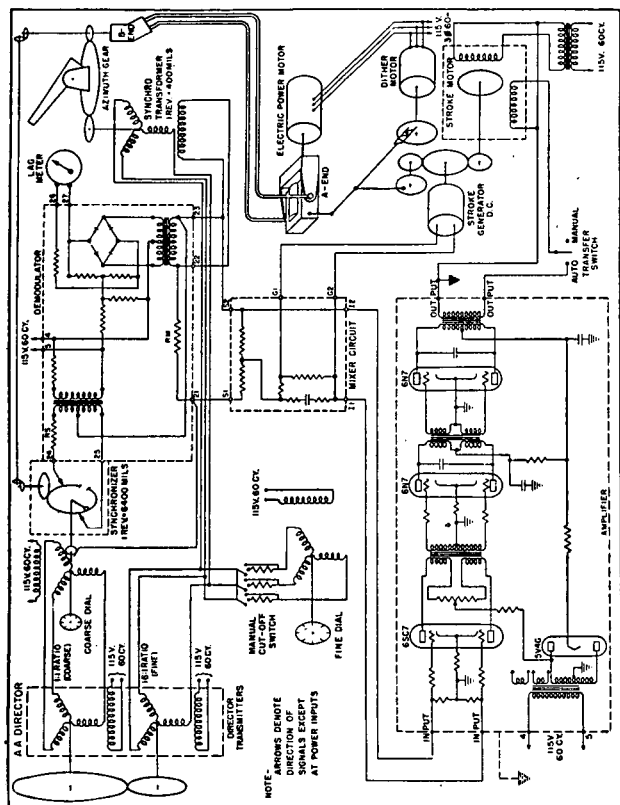
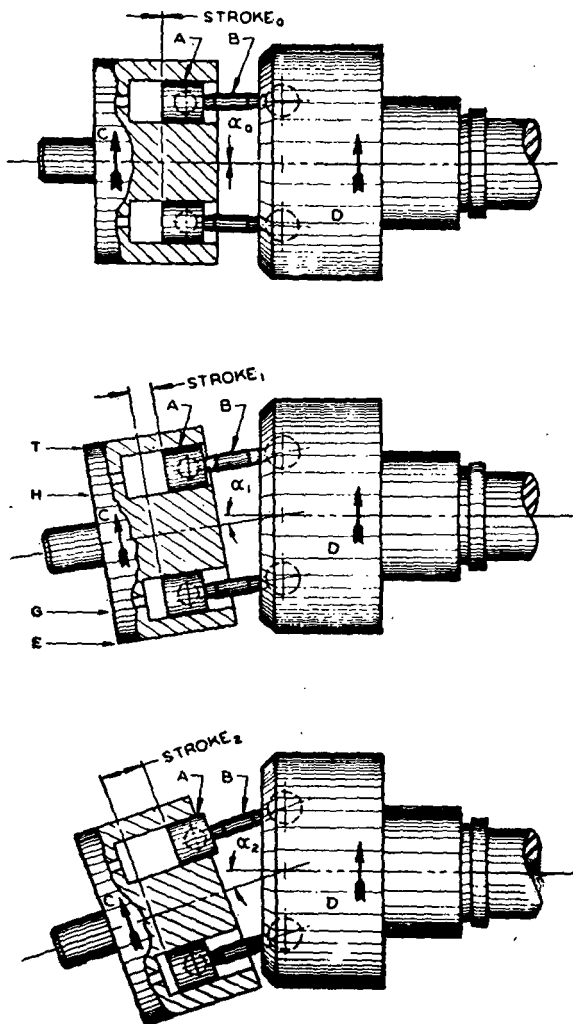

Figure 20.—Wiring system—schematic.
FIGURE 23.—A-end pump.
a. Signal system (figs. 20 and 21).—(1) Two electrical inputs and one mechanical input determine the output of the signal system. These inputs are the coarse and fine data from the director and the mechanical indication of the present position of the gun. If the electrical and mechanical inputs agree, synchronism exists, and no signal is produced. If they do not agree, a signal consisting of voltage of the proper phase and intensity is transmitted to the stroke control system. In addition, by means of the lag meter, the signal system shows whether or not the remote control sys-
(10) The secondary function of the signal system is to provide a visual indication of the proper functioning of the entire system. Depending upon the position of the gun in relation to the incoming signal from the fine transmitter at the director, the pointer of the lag meter will deflect to the left or right. The pointer of the lag meter is at zero when the gun is in the synchronous position (or any multiple of 200 mils away from synchronism).
b. Stroke control system (figs. 20, 21, and 25).—(1) Before considering the stroke control system it is necessary to understand the fundamentals of the hydraulic system (*c* below). The gun is positioned in azimuth and elevation by hydraulic motors called *B*-ends. These motors rotate in either direction depending upon the direction of the flow of oil and at a speed proportional to the amount of oil flowing. The direction and amount of flow are determined by the stroke of hydraulic pumps called *A*-ends. This stroke is varied by displacing a yoke. It is the stroke control system that positions the yoke. In addition, the stroke control system is responsible for returning the system to an inoperative condition when the gun has reached synchronism.
(2) The stroke control system consists of mixer, amplifier, and stroke control assembly (stroke control motor, stroke generator, and spring coupling). There are two stroke control systems, one for azimuth and one for elevation, identical in function but *not* interchangeable.
(3) The signal produced by the signal system when the gun is out of synchronism is called the "error signal." This signal is used to produce a mechanical motion which will actuate the hydraulic system. However, the error signal is not powerful enough to accomplish this and must be magnified. This is done by the amplifier. It is important to note that the amplifier is so constructed that the phase of the amplified a-c output is the same as any a-c input.
(4) The output of the amplifier, that is, the amplified sig-
(3) *A-end pump* (figs. 20, 21, 23, and 25).—The A-end pump consists of a flange and shaft, a cylinder block connected to the flange by a universal link, and pistons and connecting rods. The pistons are retained in cylinders in the cylinder block and are connected to the flange by connecting rods. The flange and shaft are rotated at constant speed. Through the universal link connection (not shown in fig. 23), the cylinder block rotates with the flange. The angle between the axis of rotation of the cylinder block and that of the flange can be varied. If there is no angle between the two, then, in the course of rotation, the pistons will not move either inward or outward in their cylinders. If there is an angle, then each piston in its cylinder will move inward during one-half revolution, and outward during the next. Each piston in its cylinder, during the course of rotation, comes opposite two ports. Depending upon whether the piston is moving inward or outward in its cylinder as it